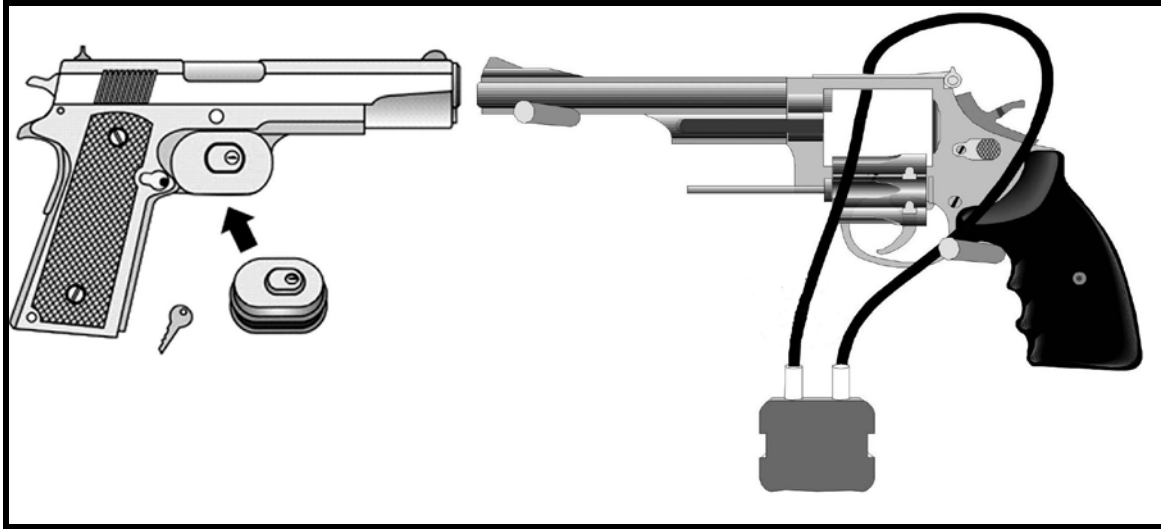

Figure 132. Cable and trigger locks
- Rendered inoperable by using a secure locking device (Figure 132) and stored in a securely locked container (Figure 133), receptacle or room that cannot be easily broken open or into, or